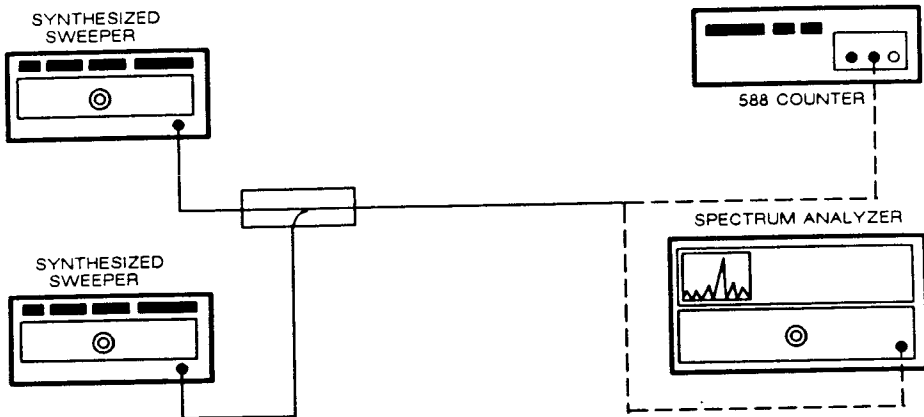

Figure 4-13. Band 2 Amplitude Discrimination Test Setup
1. Connect equipment as shown in Figure 4-13.